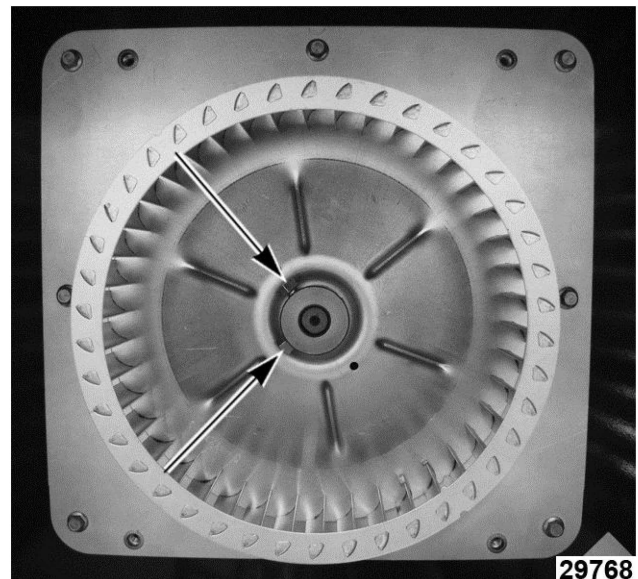

Fig. 22
3. Tighten set screws (Fig. 22) on blower hub.